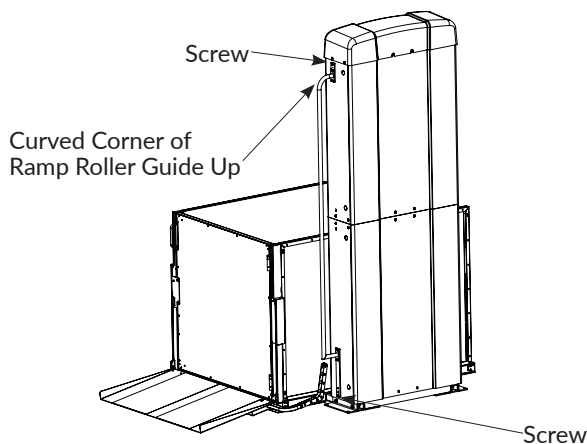

Figure 4-5
7. Use the platform control box to move the carriage up or down to align the platform and carriage mounting holes. *See Figure 4-5.*